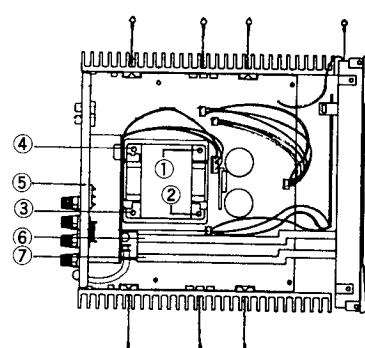

Fig. 4
2. Remove screws ① to ④ in Fig. 4, and then remove the pcb-2 ⑤ with the power transformer
3. Remove switch rods ⑥ to ⑦ and speaker selector switch in Fig. 4
⑤ PCB-⑯(Main PCB) Removal